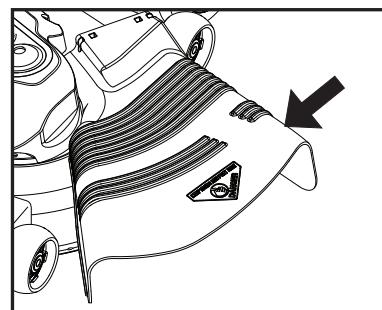

Fig. 14
**CAUTION: Do not operate the mower without either the entire grass catcher, on mowers so equipped, or the deflector chute in place (See Fig. 14).**